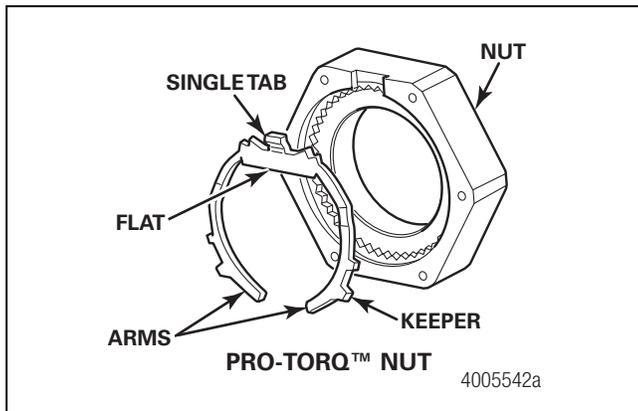

Figure 3.4
- B. Use a socket wrench to remove the PRO-TORQ™ nut. Figure 3.4.